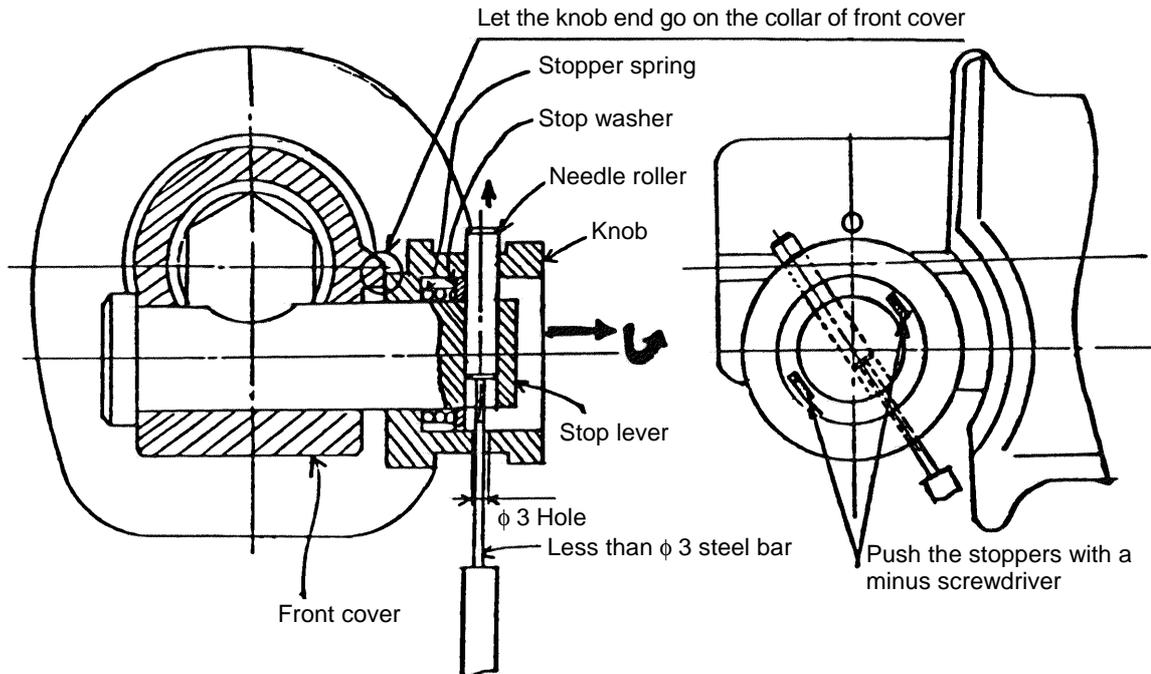

Fig. 7
Disassembly procedures are illustrated in Fig. 7 above. Pull Knob (A) ③ in the direction indicated by the arrow, turn it slightly, and release it against the collar end of the Front Cover ③⑤. Then, push in the Stop Washer ① with a minus-head screwdriver or the like to compress the Stopper Spring ②, and insert a less than ϕ 3 steel bar into the knob hole to push out the Needle Roller ④. The Stop Lever ⑤, Stop Washer ①, and Stopper Spring ② can then be removed.
As illustrated in Fig. 7 above, place Knob (A) on the collar of the Front Cover, push in the Stop Washer ① with a minus-head screwdriver or the like to compress the Stopper Spring ②, align the matching holes of Knob (A) ③ and the Stop Lever ⑤, and insert the Needle Roller ④.